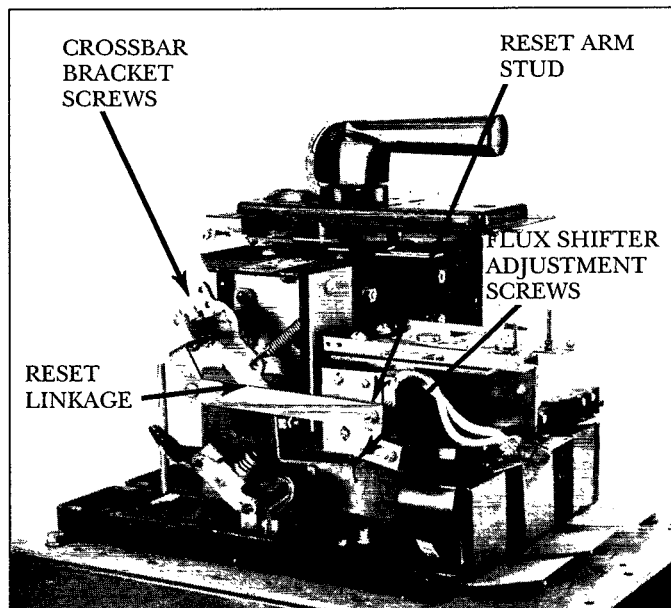

Fig. 16. Connecting the Flux Shifter Reset Linkage
Connect the end of the reset linkage to the crossbar. The angle bracket on the end of the reset linkage is mounted to the end of the crossbar with (2) ¼-20 x 1½" screws, nuts, and lock washers provided (Fig. 16).
Connect the opposite end of the flux shifter reset linkage to the flux shifter reset arm. The link slides over the stud on the reset arm and is held in place with the nut and washer already provided on the stud (Fig. 16).